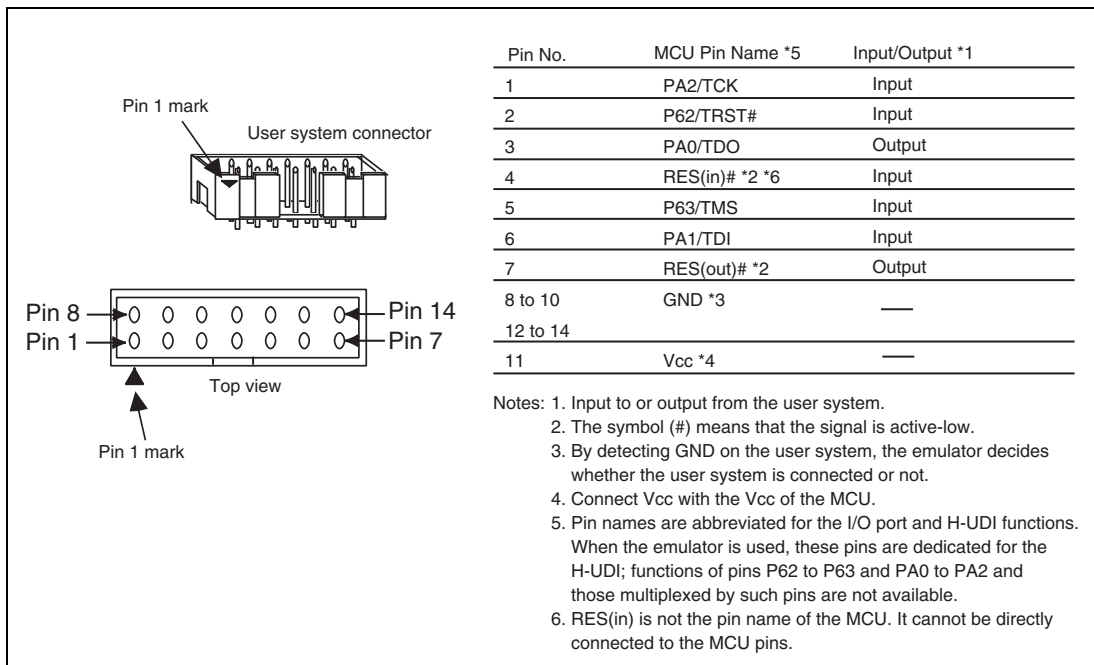

Figure 1.2 Pin Assignments of the User System Connector
Figure 1.2 shows the pin assignments of the user system connector.
4. The emulator communicates with the MCU by using pins shown in figure 1.2 in section 1.3. These pins cannot be used.